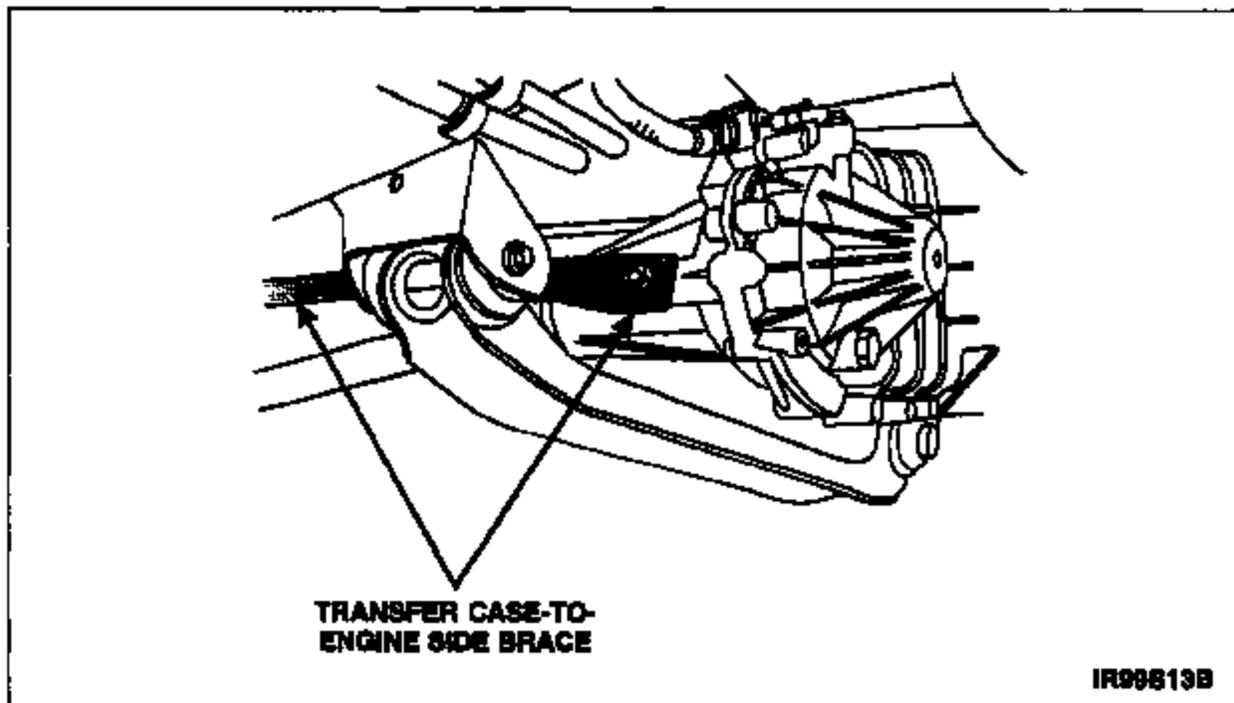

FIGURE 2
8. Remove the transfer case-to-engine side brace. See Figure 2.